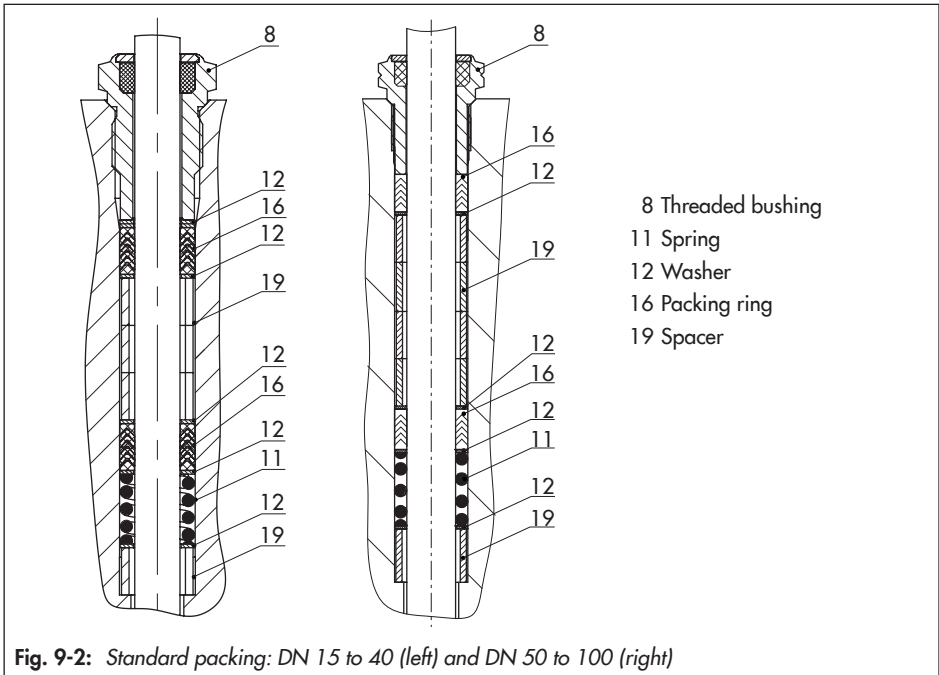

Fig. 9-2: Standard packing: DN 15 to 40 (left) and DN 50 to 100 (right)
12. Carefully slide the packing parts over the plug stem into the packing chamber using a suitable tool. Observe the proper sequence (see Fig. 9-2).
13. Firmly press the plug (5) into the seat (4). Fasten down the bonnet (2) with the top body nuts (14). Tighten the nuts gradually.
- Version with perforated plug:** place the insulating section (21) onto the insulating section, making sure that the hole of the plug that releases the flow first faces toward the valve outlet.
- Carefully slide the packing parts over the plug stem into the packing chamber using a suitable tool. Observe the proper sequence (see Fig. 9-2).
- Firmly press the plug (5) into the seat (4). Fasten down the insulating section (21) with the top body nuts (14). Tighten the nuts gradually in a crisscross pattern. Observe tightening torques.
- Screw in the threaded bushing (8) and tighten it. Observe tightening torques.
- Place yoke (3) onto the insulating section (21) and fasten using the castellated nut (92).
- Loosely screw the lock nut (10) and stem connector nut (9) onto the plug stem.
16. Carefully slide the packing parts over the plug stem into the packing chamber using a suitable tool. Observe the proper sequence (see Fig. 9-2).
17. Firmly press the plug (5) into the seat (4). Fasten down the bonnet (2) with the top body nuts (14). Tighten the nuts gradually in a crisscross pattern. Observe tightening torques.
18. Screw in the threaded bushing (8) and tighten it. Observe tightening torques.
19. Place yoke (3) on the bonnet (2) and fasten using the castellated nut (92).
20. Loosely screw the lock nut (10) and stem connector nut (9) onto the plug stem.